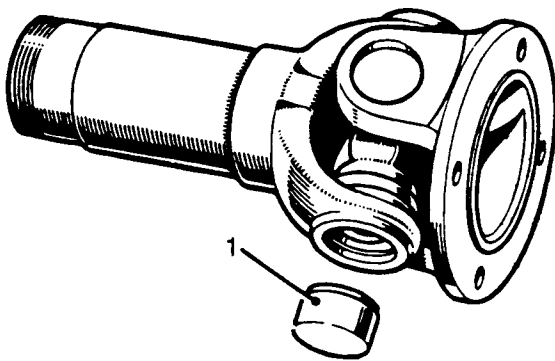

Fig H4.10
- (16) Refer to Fig H4.10. Lift the sleeve clear of the tube and withdraw the bearing (1) downwards to avoid dropping the needle rollers.
- (17) Repeat steps (14) to (16) for the opposite bearing.